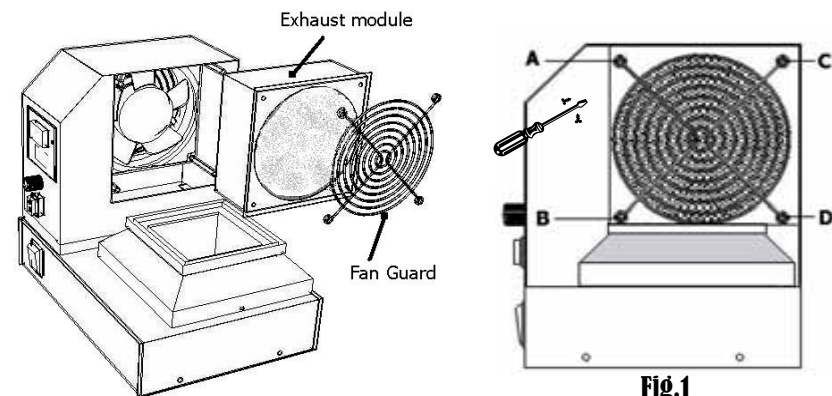

Fig.1
7. Replace the exhaust module back into the main unit attach the fan guard and exhaust module securely with screws A, B , C and D (fig. 1 page 13).
7. Reinsert the exhaust module back into the main unit and attach the fan guard and exhaust module securely with screws A, B , C and D (fig.1 page 13).